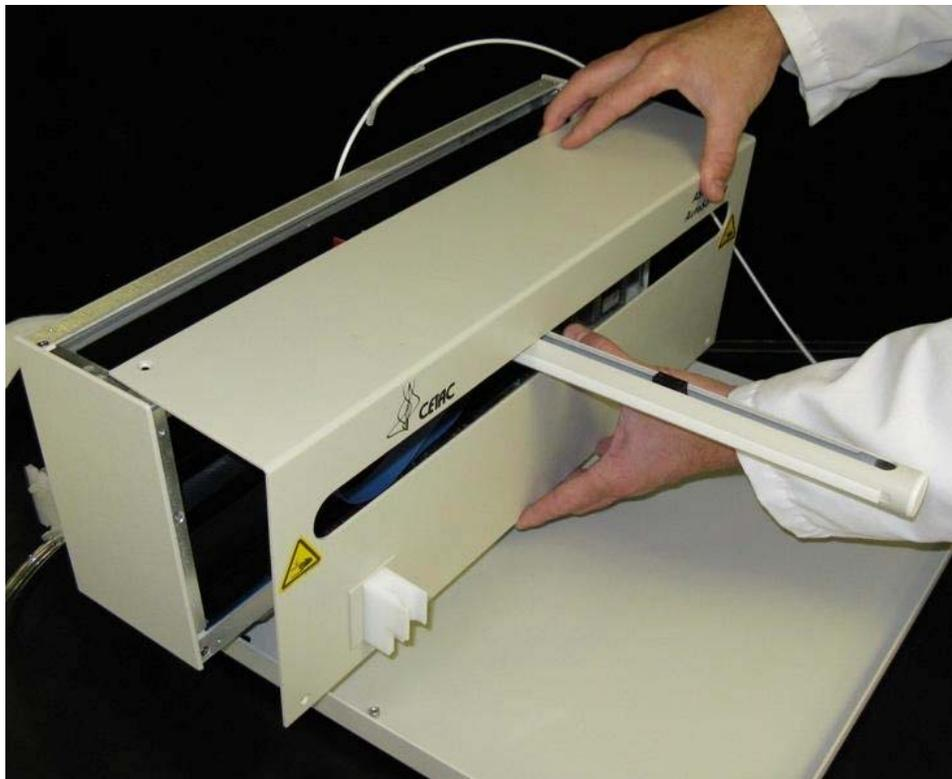

**Figure 1-7.** Removing the tray.
5. The Auto Sampler tray is next to be removed. Lift up the tray and pull forward. See Figure 1-7.